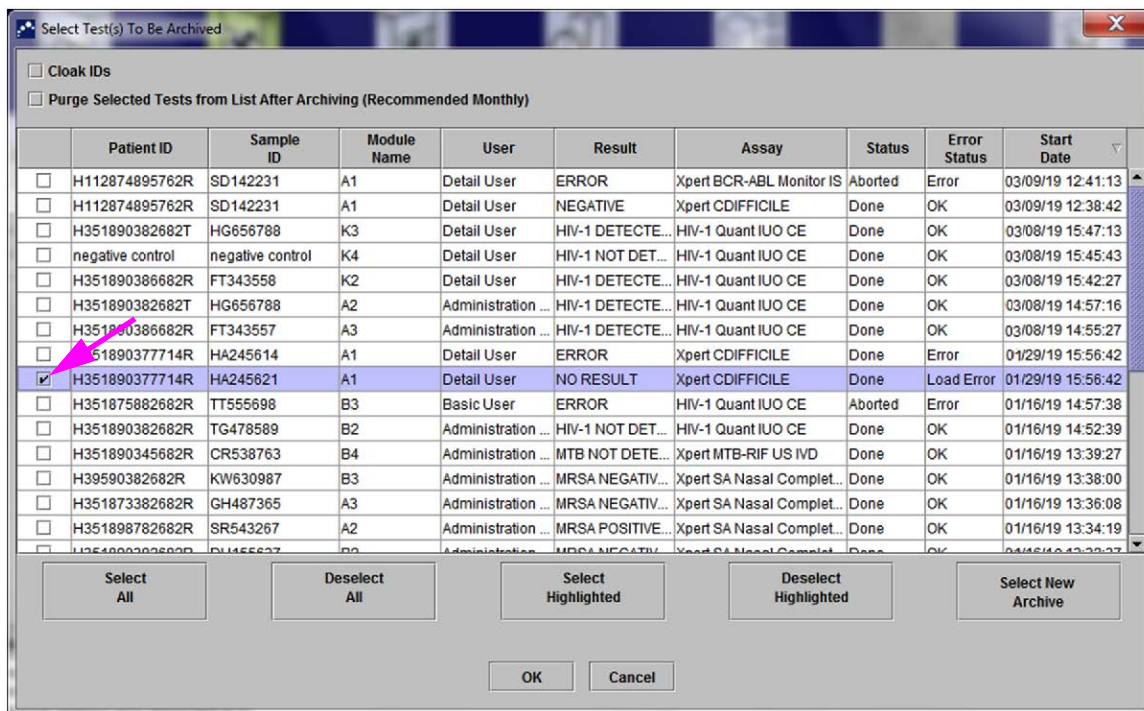

Figure 5-65. Select Test(s) To Be Archived Dialog Box
1. In the GeneXpert Dx System window, on the **Data Management** menu, click **Archive Test**. The Select Test(s) To Be Archived dialog box appears. See Figure 5-65.
2. Select the test(s) you want to archive. Click the check box that is adjacent to each test you want to archive. See Figure 5-65. You can select the individual tests one-by-one, or select a large number of tests by clicking one of the following buttons at the bottom of the Select Tests To Be Archived screen:
When the **Cloak IDs** check box, located in the top left area of the Select Test(s) To Be Archived dialog box, (see Figure 5-65) is checked, all information about the sample ID and patient ID is cloaked.